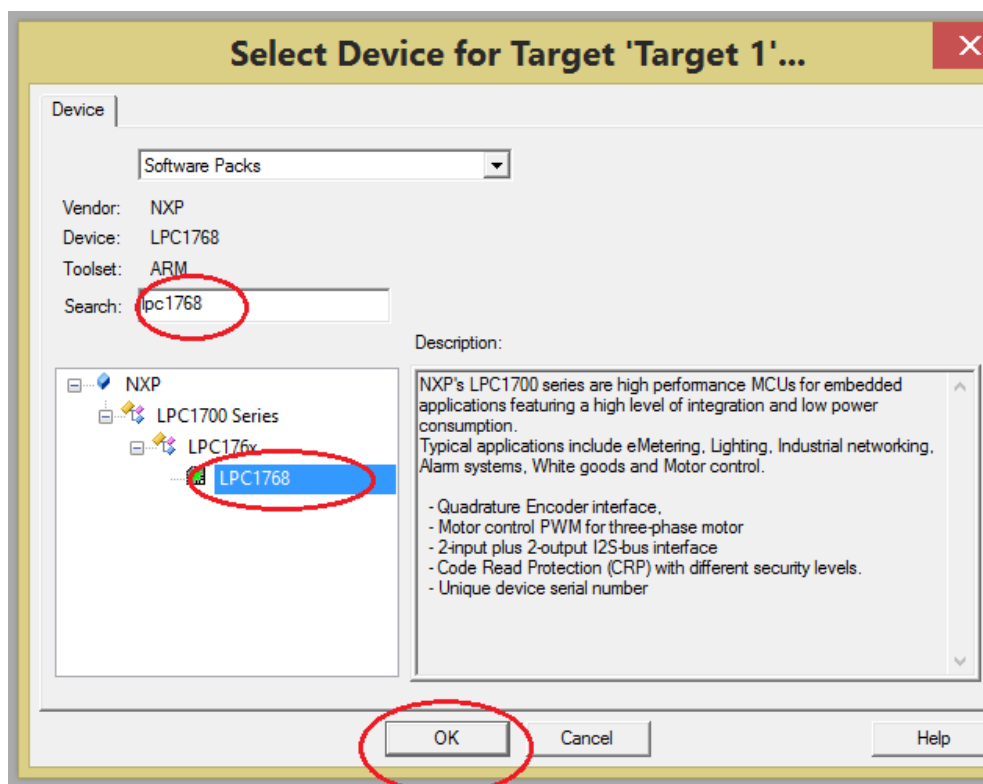

Figure 3
3. Type "LPC1768" as shown in the Figure 3 below and select the device and press OK.